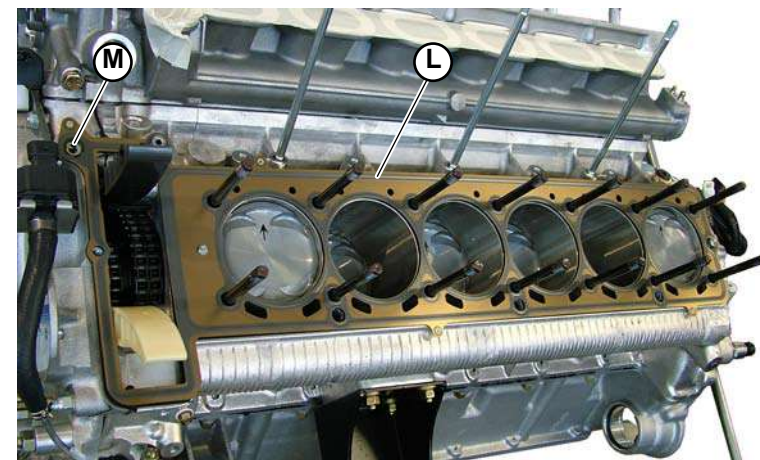

Fig.11
11. Remove the head gasket (**L-Fig.11**).
12. Remove the head oil passage O-ring (**M-Fig.11**).